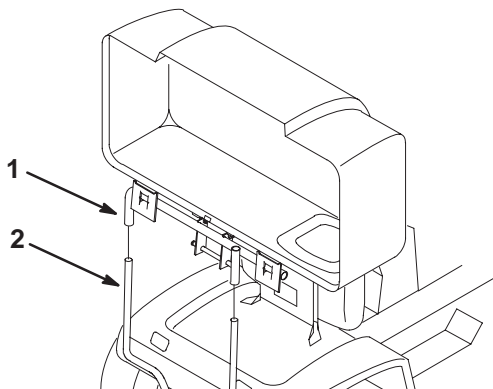

Figure 33
3. With the lid in the open position, carefully lift the bagger top and slide off the quick-attach bracket (Fig. 33).